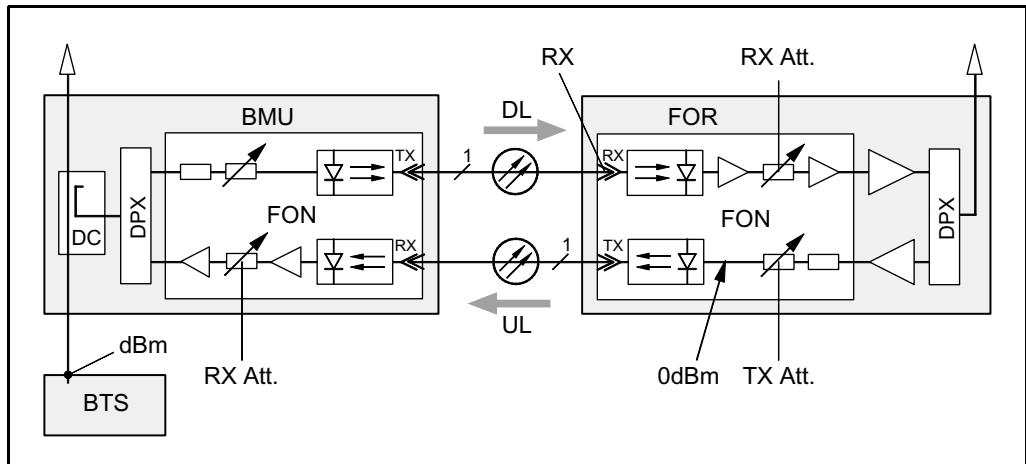

Figure 6-3. Slave unit downlink path, and uplink path
12. Measure the optical downlink input power ('RX' in Figure 6-3). The receiver level is measured via the O&M software (FON status).